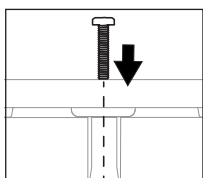

Figure 6
5. Insert the Hex Head Bolt, through the safe floor and into the Drop-in Anchor. (Figure 6)